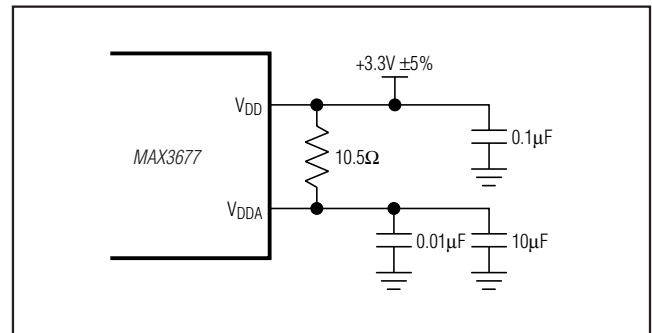

Figure 4. Analog Supply Filtering
- Note 1:** A series resistor of up to  $10.5\Omega$  is allowed between  $V_{DD}$  and  $V_{DDA}$  for filtering supply noise when system power-supply tolerance is  $V_{DD} = 3.3V \pm 5\%$ . See Figure 4.
The MAX3677 is a mixed analog/digital IC. The PLL contains analog circuitry susceptible to random noise. To take full advantage of on-board filtering and noise attenuation, in addition to excellent on-chip power-supply rejection, this part provides a separate power-supply pin, VDDA, for the VCO circuitry. The purpose of this design technique is to ensure clean input power supply to the VCO circuitry and to improve the overall immunity to power-supply noise. Figure 4 illustrates the recommended power-supply filter network for VDDA. This network requires that the power supply is +3.3V ±5%. Decoupling capacitors should be used on all other supply pins and placed as close as possible to the pins for best performance.